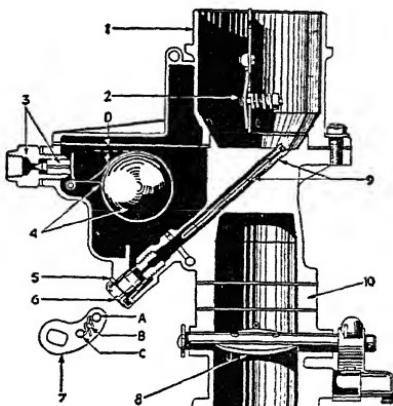

Fig. 92. Side Cross Section of Plymouth-Chrysler Carburetor
For extremely warm weather or for high altitudes (above 3000 feet) the accelerating pump link should be placed in the hole *C*, Fig. 92, in the accelerating pump lever *7*, which is closest to the pump lever shaft. This gives the shortest stroke of the accelerating pump. For normal summer driving, the pump link should be in the middle hole *B*, in the lever. For extremely cold weather operation, the pump link should be in the pump lever hole *A*, which is farthest from the shaft.
**Fuel Level.** The fuel level in the float chamber is controlled by the position of the float. The top of the float is set  $\frac{1}{16}$  inch, dimension *D*, Fig. 92, below the surface of the float chamber (without gasket) with the engine idling. It should not be necessary to disturb this adjustment unless the float or the float arm has become damaged by rough handling. If it is necessary to correct the float level, it may be done by bending the float arm near where the arm is fastened to the float.